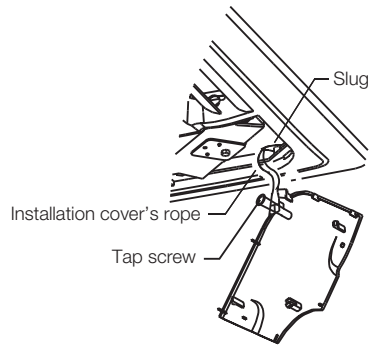

Fig.4-20
- 1) Fasten the rope of installation cover on the bolt of the installation cover. (Refer to Fig.4-20)